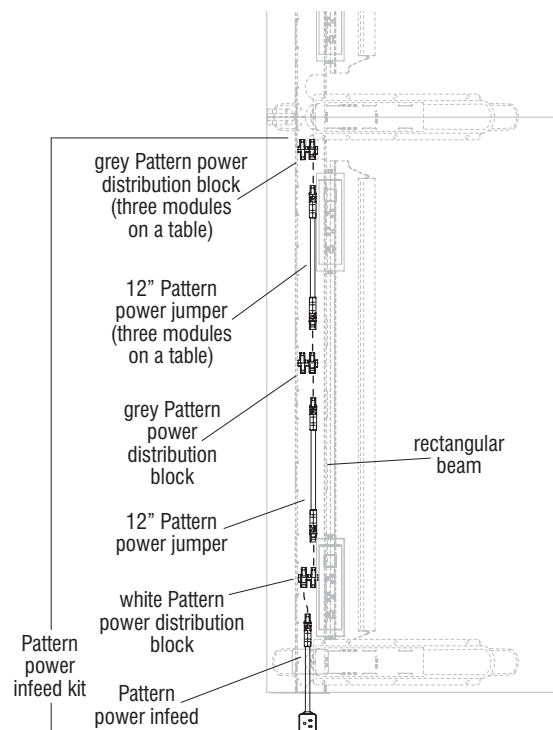

Figure 1
6. Steps 1 through 5 assemble a standard Pattern power infeed kit (Figure 1). If the table being assembled has the power infeed installed and it will receive three power modules, an additional 12" Pattern power jumper and grey Pattern power distribution block on the end will be required after the first grey distribution block (Figure 1).